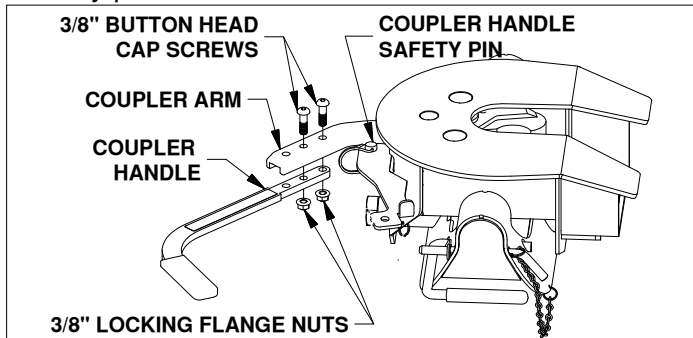

Figure E1: View looking down at side of coupler.
1. **Open coupler.** Locate the two 3/8" x 1-1/4" button head cap screws and the two 3/8" flanged lock nuts provided in a bolt bag. Pull out the coupler arm and pin it with the safety locking pin near the base of the arm, as shown in Figure E1.
2. **Secure handle.** Using the button cap screws and the lock nuts, attach the coupler handle to the arm and tighten, see Figure E1. Pull out the coupler handle safety pin.